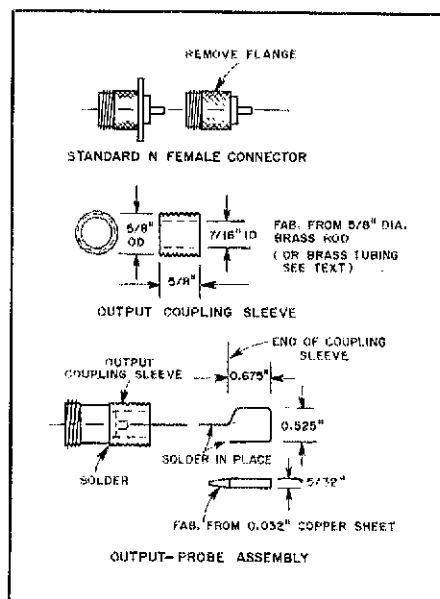

Fig. 7 — Output-probe/connector assembly details.
- J2 — Modified Type-N connector. See text and Fig. 7.
- L2 — Output-coupling loop. Part of output-conductor assembly. See text and Fig. 7.
sheet that is 5/32 inches wide. Bend it to the dimensions shown in Fig. 7. We will solder the output connector together later.
connector (silver plated) is used for the output probe/connector. See Fig. 7. First, remove the flange with a hacksaw and file flush with the connector body. Next, make the output-coupling sleeve that is right for your application (threaded or unthreaded, depending on how you fabricated the ring). The sleeve will be the same length in either case. The output-coupling loop is fashioned from a piece of 0.032-inch-thick copper
While the grid assembly is cooling, assemble the output connector. See Fig. 7. Place the modified Type-N female connector, threaded end down, on the soldering fixture. Apply flux to the top and install the output coupling sleeve. Allow both parts to heat before applying solder. Carefully remove the soldered output connector from the fixture. When it has cooled, solder one end of the loop to the center pin of the N connector and the other to the output coupling sleeve.